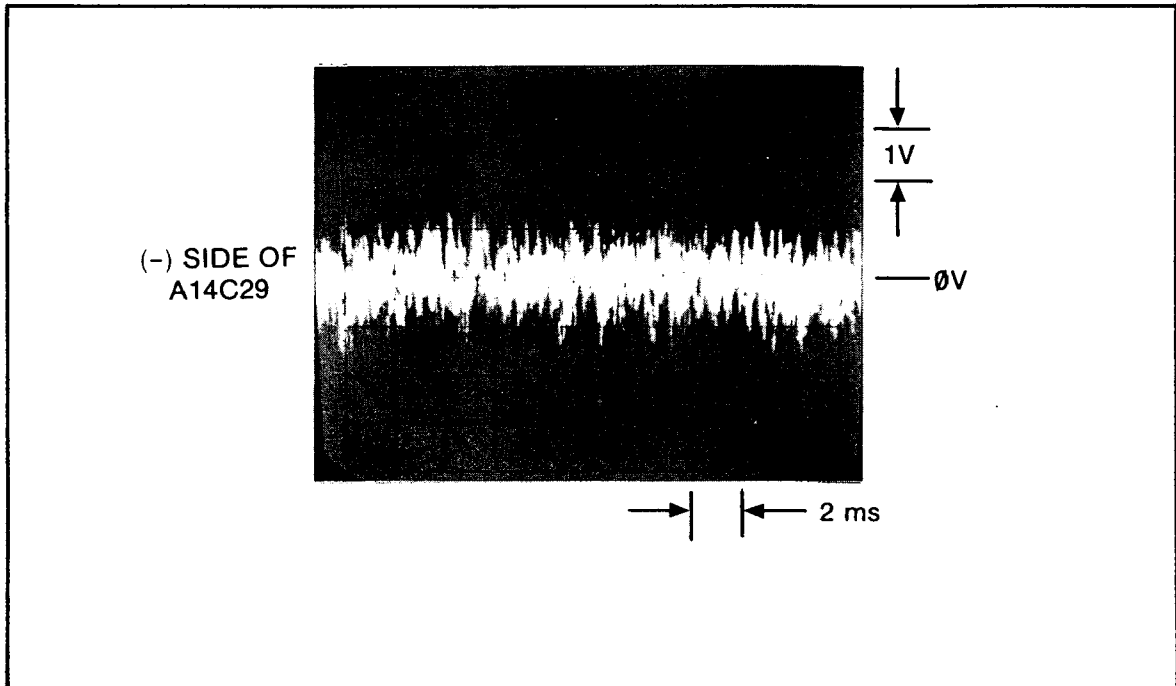

Figure 5-3. Noise Generator Waveform
- c. Observe the noise waveform at the (-) side of A14C29 with the oscilloscope. Large noise spikes should not be present. See Figure 5-3.